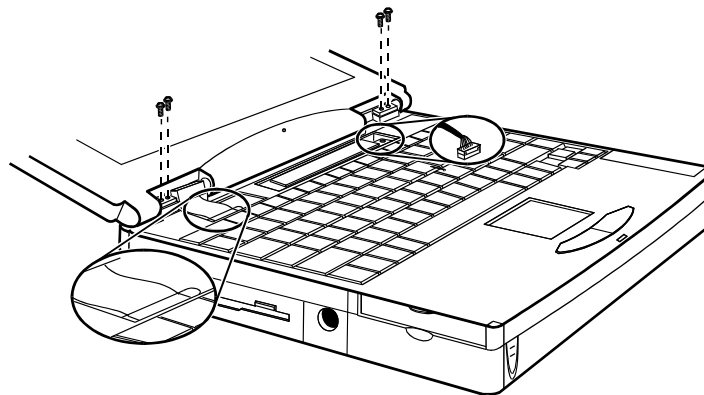

FIGURE 7-20. REMOVING SCREWS FROM THE HINGES AND UNPLUGGING CONNECTORS
3. UNPLUG THE LCD TWO CABLE CONNECTORS FROM THE SYSTEM BOARD. (SEE FIGURE 7-20).
1. ATTACH THE LCD ASSEMBLY TO THE BASE UNIT AND SECURE WITH FOUR SCREWS ON THE HINGES. (SEE FIGURE 7-20 EARLIER).
2. RECONNECT THE TWO CONNECTORS. (SEE FIGURE 7-20 EARLIER).